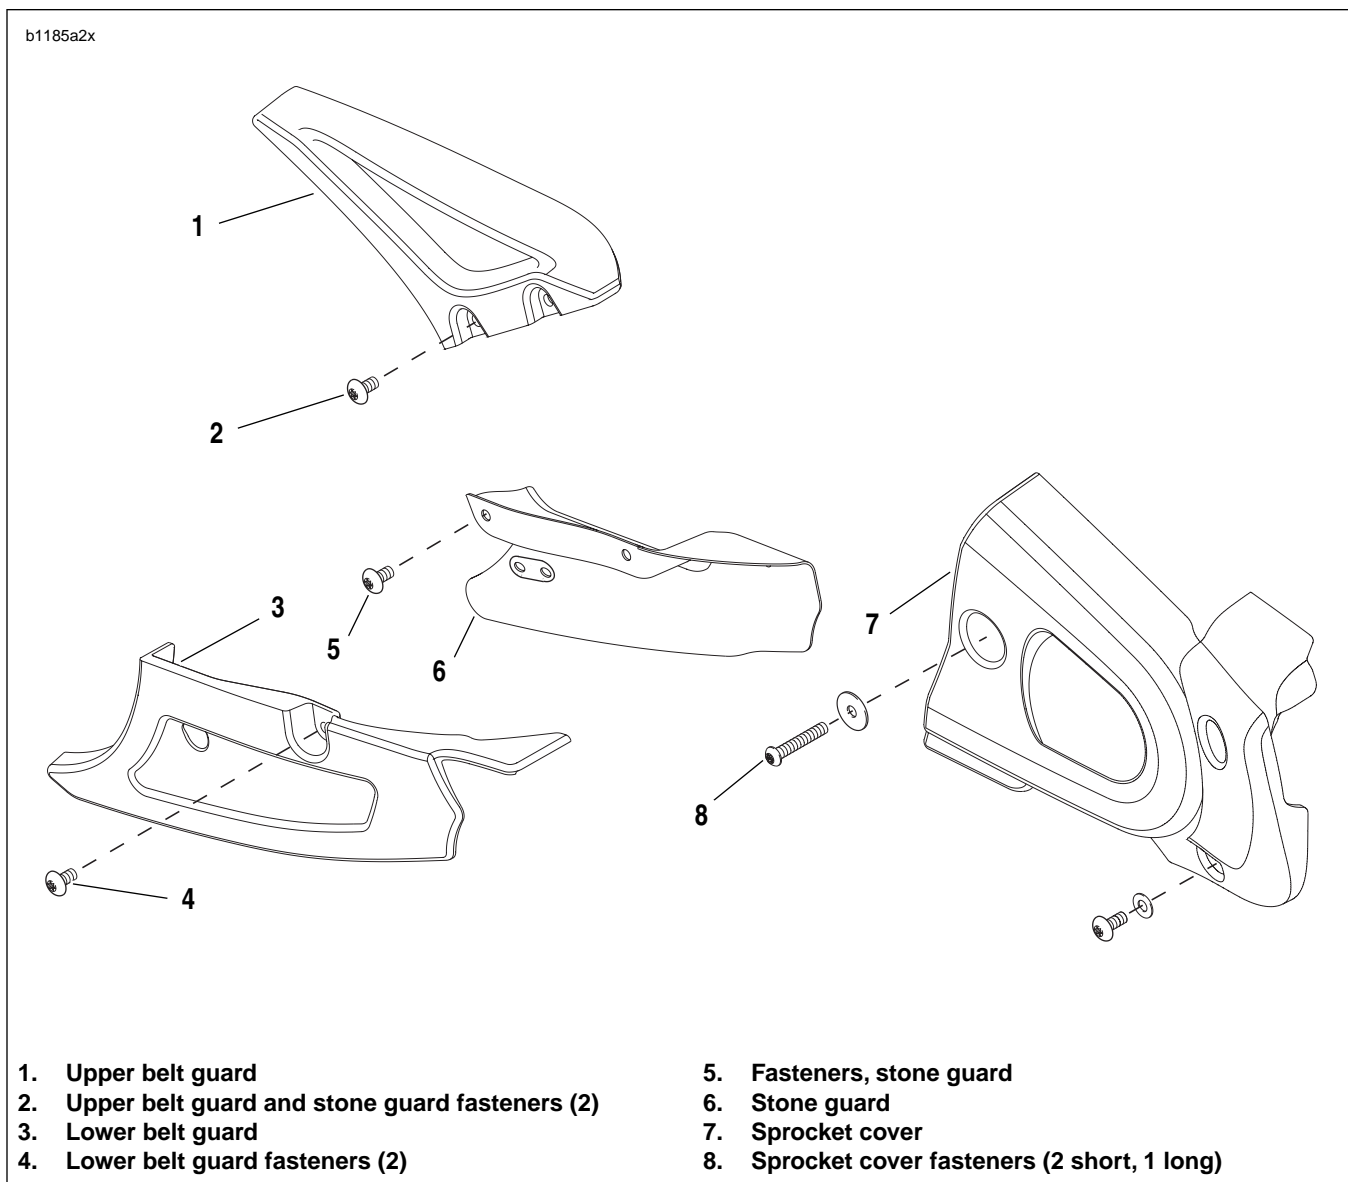

Figure 2-119. Belt Guard Assembly
5. See Figure 2-119. Remove lower belt guard by removing the two fasteners located on the outside of the lower belt guard.
7. Remove upper belt guard (1) by removing fasteners from swingarm.
1. See Figure 2-119. Install upper belt guard (1) to swing-arm brace tightening fasteners to 12-36 **in-lbs** (1-4 Nm).
3. Install lower belt guard (3) and tighten fasteners (4) to 12-36 **in-lbs** (1-4 Nm).